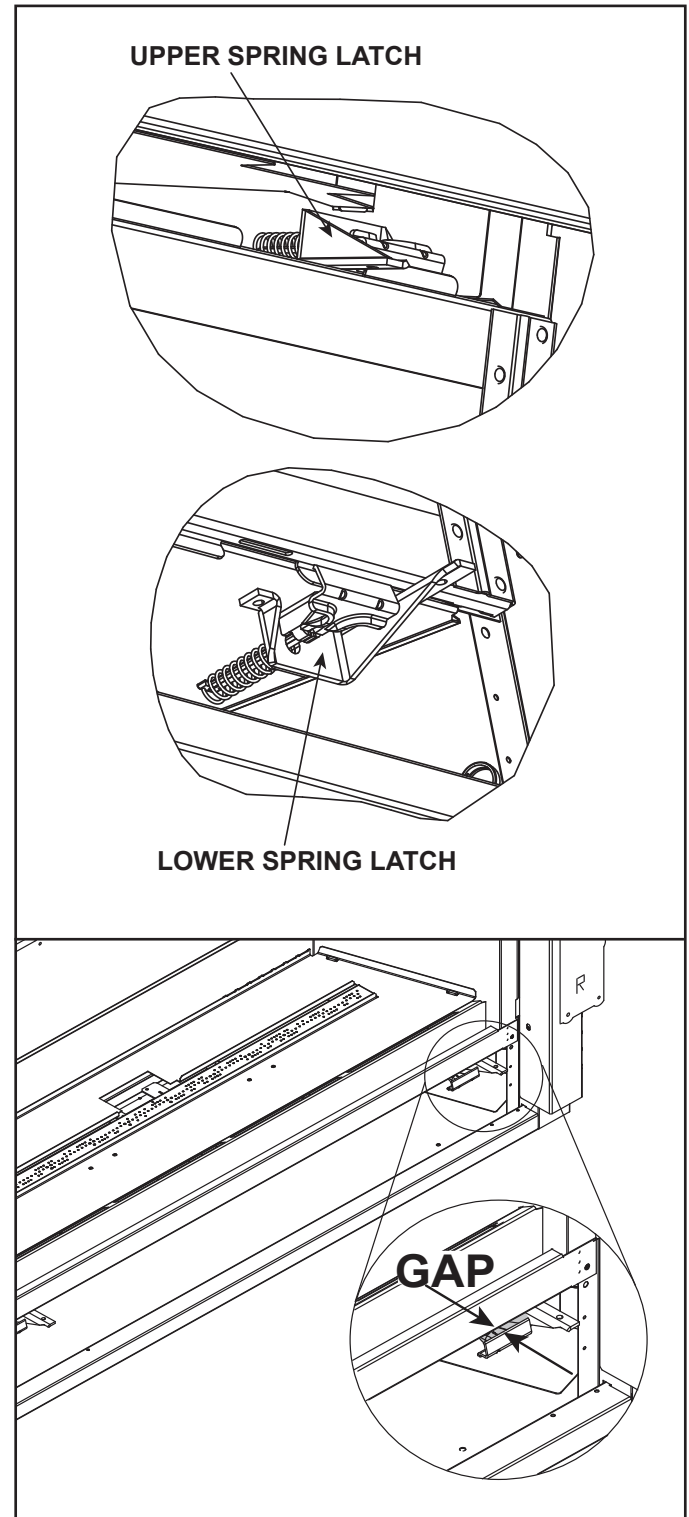

Figure 11.1 Fixed Glass Assembly
2. The glass assembly has two upper spring latches and two lower spring latches. See Figure 11.1. Locate the two spring latches that are on the upper left and right of the fireplace.
Note: Observe the presence of a space or gap between the glass latch and the front of the appliance where the bottom of the glass assembly is positioned. This gap is designed for positive placement when replacing the glass assembly. See Figure 11.1 and Section F.
The bottom glass latches have been designed to create a small gap between the glass clip and the face of the appliance. See Figure 11.1.